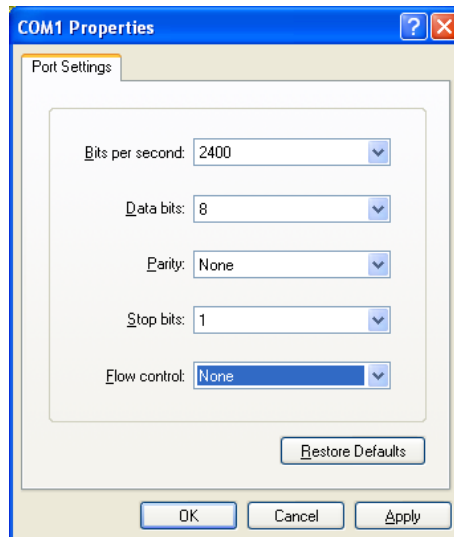

Figure 15: COM Properties
Step 4: It will pop up "COM Properties" screen and select port setting as shown in Figure 15 and click OK.